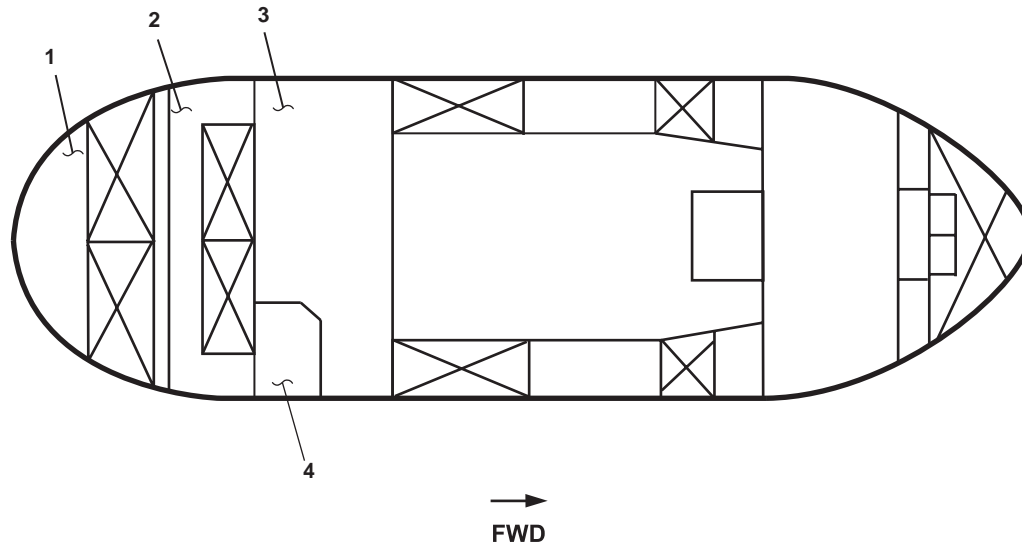
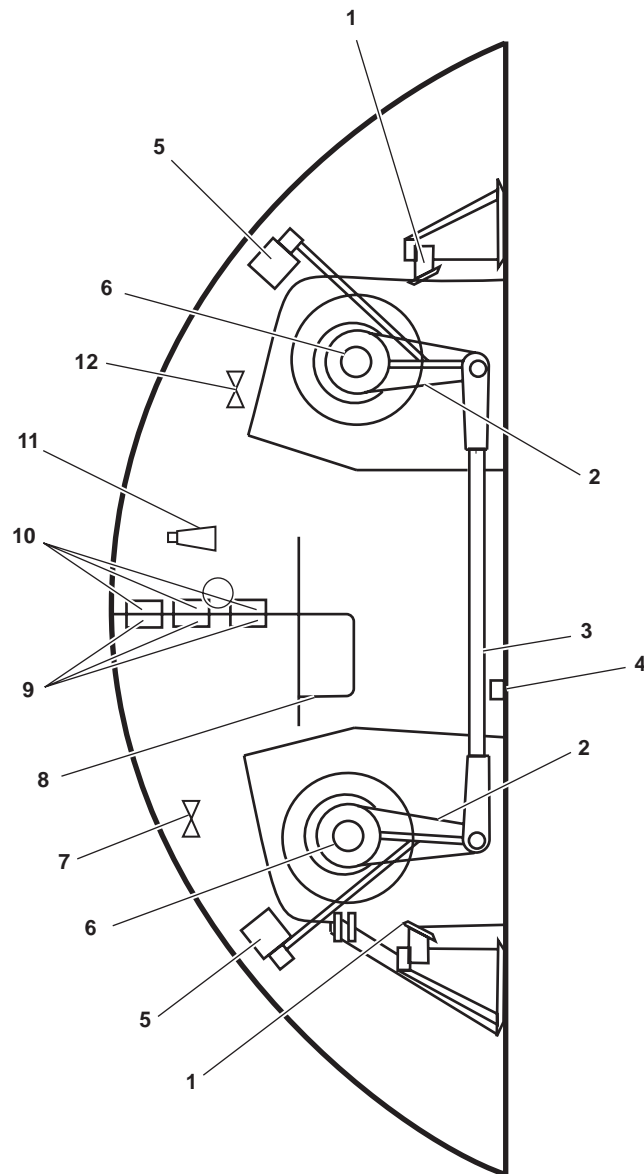
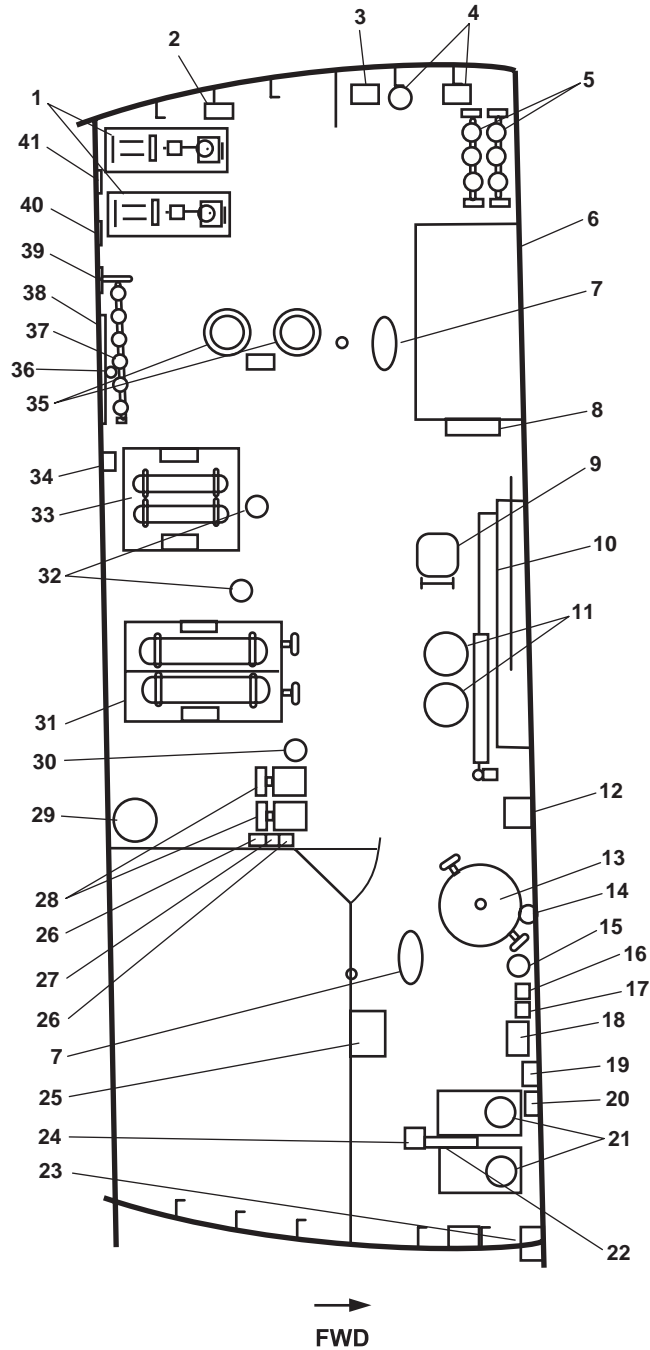
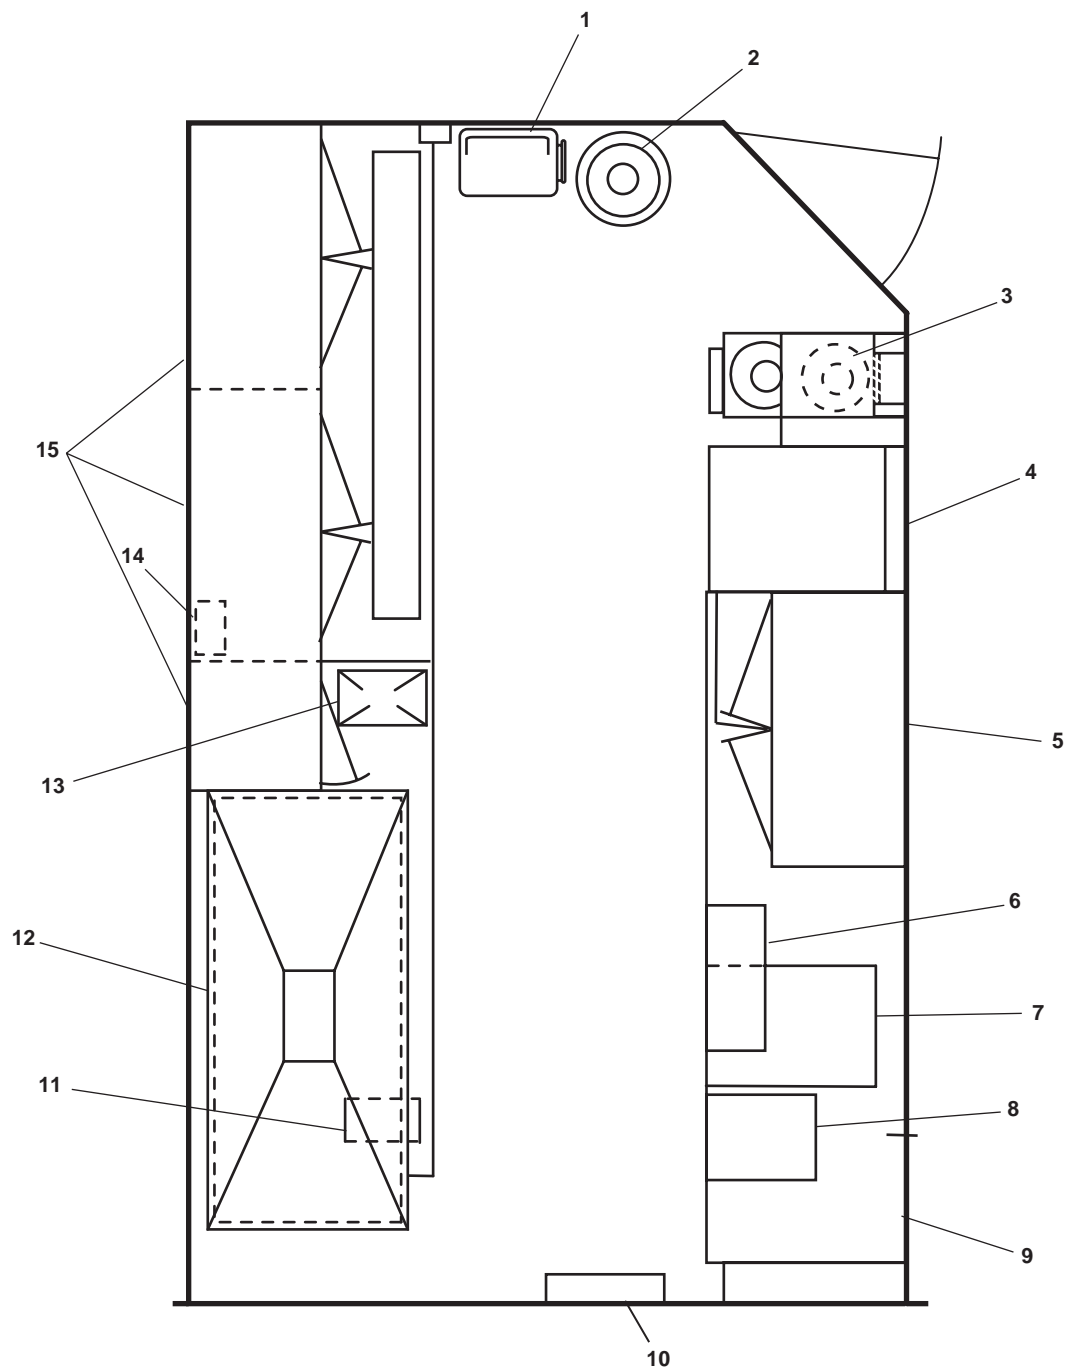

Figure 1. Below Main Deck, Aft of Engine Room
Figure 2. Steering Gear Compartment
Figure 4. AMS 2
Figure 5. Workshop
1. Steering gear compartment (figure 1, item 1). This space houses all the equipment necessary to steer the vessel. Details of this space are contained in figure 2.
2. Towing gear locker (figure 1, item 2). This space provides stowage for the vessel's towing gear and equipment. Details of this space are contained in figure 3.
3. AMS 2 (figure 1, item 3). AMS 2 houses the various components and equipment. Details of this space are contained in figure 4.
4. Workshop (figure 1, item 4). The workshop provides workspace and equipment necessary to make on-board repairs. The details of this space are contained in figure 5.
1. Rudder stop (figure 2, item 1). The rudder stop limits the swing of the rudder to a maximum of 35 degrees to port or starboard.
2. Tiller arm (figure 2, item 2). The tiller arm connects the rudder post to the tie bar.
3. Tie bar (figure 2, item 3). The tie bar connects the tillers, providing unified tiller movement.
4. Raw water eductor gauge (figure 2, item 4). The raw water eductor gauge indicates the pressure available at the eductor.
5. Steering system rudder feedback unit (figure 2, item 5). The steering system rudder feedback unit displays the status and angle of the rudder.
6. Rudderpost (figure 2, item 6). The rudderpost is the shaft that allows the rudder to pivot 35 degrees to port or starboard.
7. Overboard discharge bilge eductor valve BB-8 (figure 2, item 7). This valve, when OPEN, allows water to be removed from the bilge of the steering compartment to the eductor and overboard.
8. Raised access hatch (figure 2, item 8). The raised access hatch provides entrance/exit to the steering gear compartment.
9. Starboard tow pin control valves (figure 2, item 9). These solenoid valves control the raising and lowering of the starboard tow pins.
10. Port tow pin control valves (figure 2, item 10). These solenoid valves control the raising and lowering of the port tow pins.
11. Eductor (figure 2, item 11). The eductor is part of the bilge ballast general service system. When placed online it can rapidly remove water from a compartment.
12. BB-11, OVBD. DISCH. BILGE EDUC. (figure 2, item 12). This valve secures the overboard flow from the eductor.
1. Bilge and ballast pumps (figure 4, item 1). The bilge and ballast pumps are electric motor-driven pumps used to pump the bilges and fill or drain the ballast tanks.
2. Bilge and ballast pump pressure gauges (figure 4, item 2). These pressure gauges indicate the discharge pressure of the bilge and ballast pumps.
3. Ballast tank, tank level indicators (figure 4, item 3). These indicators display the fluid level in the ballast tanks.
4. Brominator system (figure 4, item 4). The brominator introduces bromine into the potable water tanks.
5. Ballast manifold (figure 4, item 5). This duplex manifold provides centralized control of the fluid level within the ballast tanks.
6. Reverse Osmosis Water Purification Units (ROWPU) (figure 4, item 6). Two ROWPUs convert raw water to fresh water at a rate of 33 to 99 gal/hr (125.6 to 250 L/hr). ROWPU 1 converts raw water to fresh water at a rate of 66 gal/hr (249.8 L/hr). ROWPU 2 converts raw water to fresh water at a rate of 33 gal/hr (125.6 L/hr).
7. Access hatch for shaft alleys (figure 4, item 7). The access hatch is a hinged deck plate that provides access to the shaft alleys.
8. 440V power panel No. 5 (figure 4, item 8). This panel provides 440 volts power distribution for AMS 2 equipment.
9. Scuttle (escape hatch) and ladder (figure 4, item 9). The scuttle and ladder provide an emergency escape from AMS 2.
10. Hydraulic sliding watertight door (figure 4, item 10). This door is a hydraulically powered sliding watertight door used to prevent flooding from one compartment to another.
11. Two 600 lb (223.9 kg) FM-200 cylinders (figure 4, item 11). These FM-200 cylinders store the FM-200 extinguishing agent used in the engine room and AMS 1 overhead fire suppression system.
12. Watertight door hydraulic hand pump (figure 4, item 12). This hand pump is used to open and close the engine room sliding watertight door.
13. Potable water hydropneumatic tank (figure 4, item 13). The potable water hydropneumatic tank provides water pressure to the potable water system.
14. FM-200 delay bypass cylinder (figure 4, item 14). When CLOSED, the FM-200 bypass cylinder provides a 60-second delay before the FM-200 extinguishing agent is released. When OPEN, the FM-200 bypass cylinder redirects CO₂ pressure to activate the FM-200 system immediately.